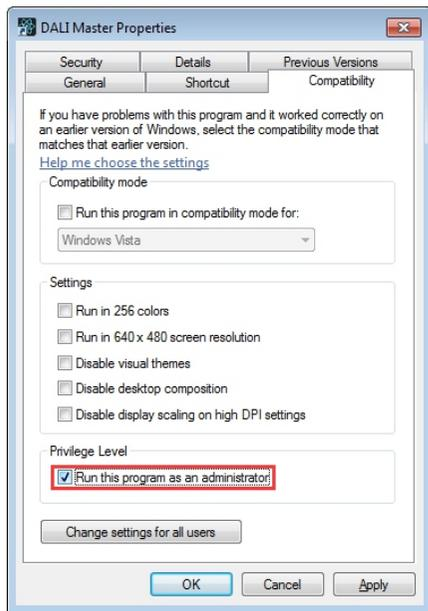

Figure 7 Run this program as an administrator
**Step 1:** Right click the desktop icon  to check the properties, switch to "Compatibility" tab, and check item "Run this program as an administrator" as shown in Figure 7.
**Step 2:** Click "OK" to complete the setting as shown in Figure 7.